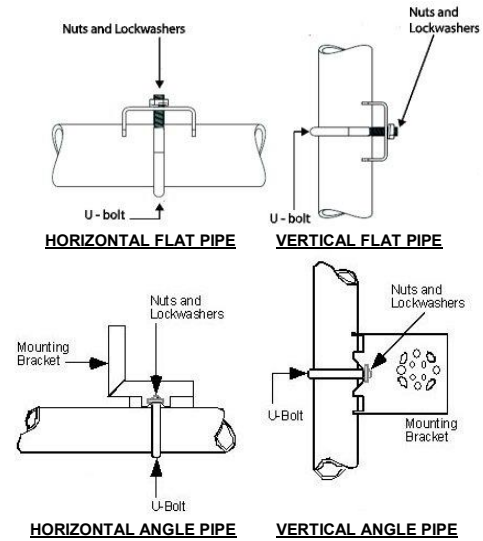

Figure 5: Flat and Angle Mounting Brackets secured to Horizontal or Vertical Pipe
1. Align the two mounting holes in the transmitter with the two slots in the mounting bracket and assemble the (2) M8 hex cap screws, (2) lockwashers and (2) flat washers provided. Rotate transmitter assembly to the desired position and torque the M8 hex cap screws to 27,0 Nm/20,0 Lb-ft maximum.
2. Pipe Mount Option: Refer to Figure 5. Position the bracket on a 2-inch (50.8 mm) horizontal or vertical pipe, and install a "U" bolt around the pipe and through the holes in the bracket. Secure the bracket with the nuts, flat washers and lock washers provided.
3. Wall Mount Option: Position the bracket on the mounting surface at the desired location and secure the bracket to the mounting surface using the appropriate hardware (Wall mounting hardware requirements to be determined and supplied by the end user). Existing mounting bracket, see Figure 5
Position bracket on 2-inch (50.8 mm) and install "U" bolt around pipe and through holes in bracket. Secure with nuts and lock washers provided. Optional mounting bracket, see Figure 5